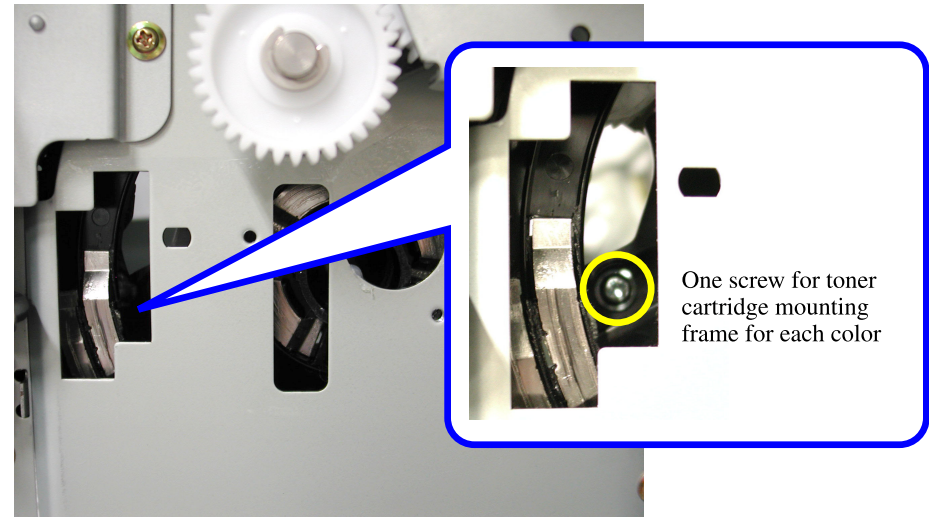

Figure 4-58. Removing the Screws securing the Toner Cartridge Mounting Frame
4. Remove the screws securing the toner cartridge mounting frame. (4 screws in total) (See "Figure 4-58 (p.201)")